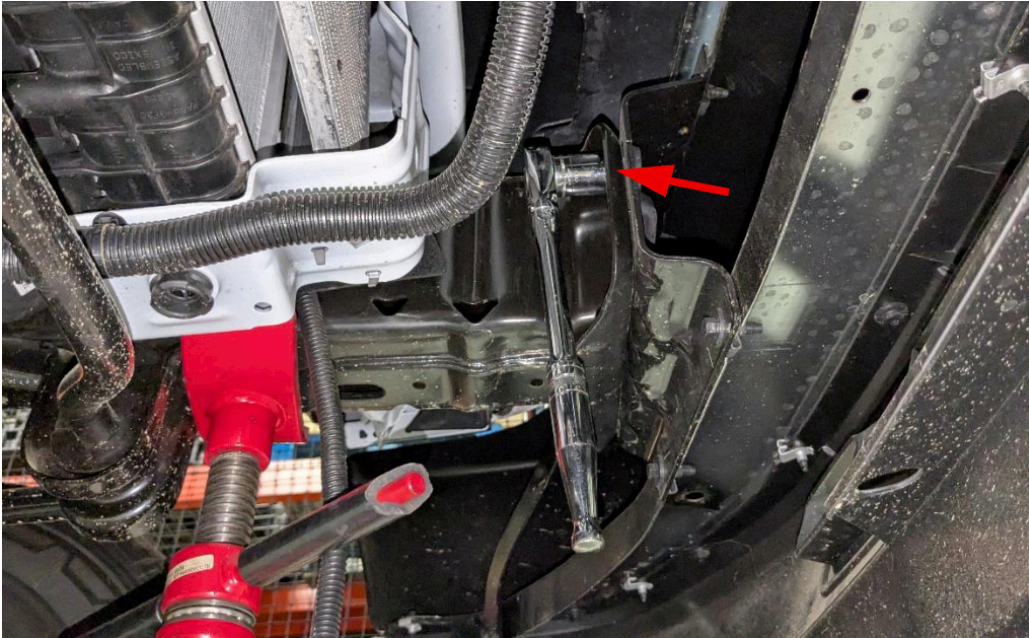

Figure 7
6. Using a 21mm socket wrench, remove the two (2) nuts from each frame horn to remove the bumper from the vehicle. Figure 7